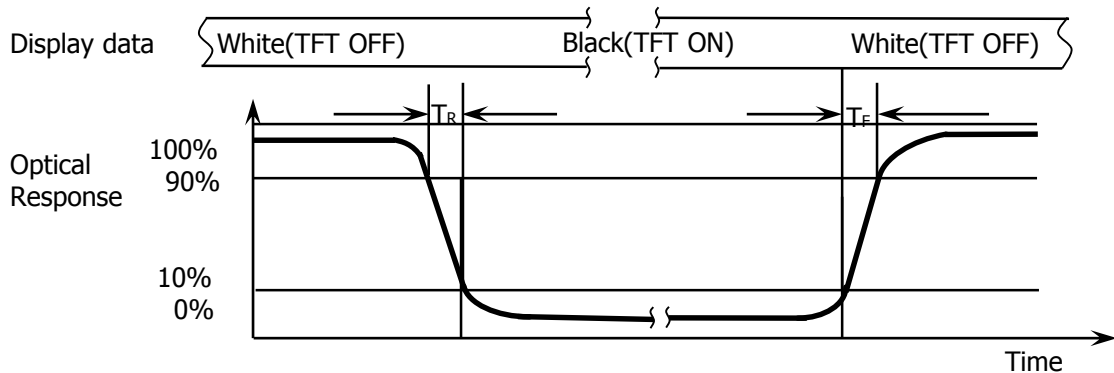

Figure 10. Response Time Testing
6. The electro-optical response time measurements shall be made as Figure 10 by switching the “data” input signal ON and OFF. The times needed for the luminance to change from 10% to 90% is T_i , and 90% to 10% is T_r .
The electro-optical response time measurements shall be made as shown in Figure 10 by switching the “data” input signal ON and OFF. Tr: The luminance to change from 10% to 90% ,Tf: The luminance to change from 90% to 10% .